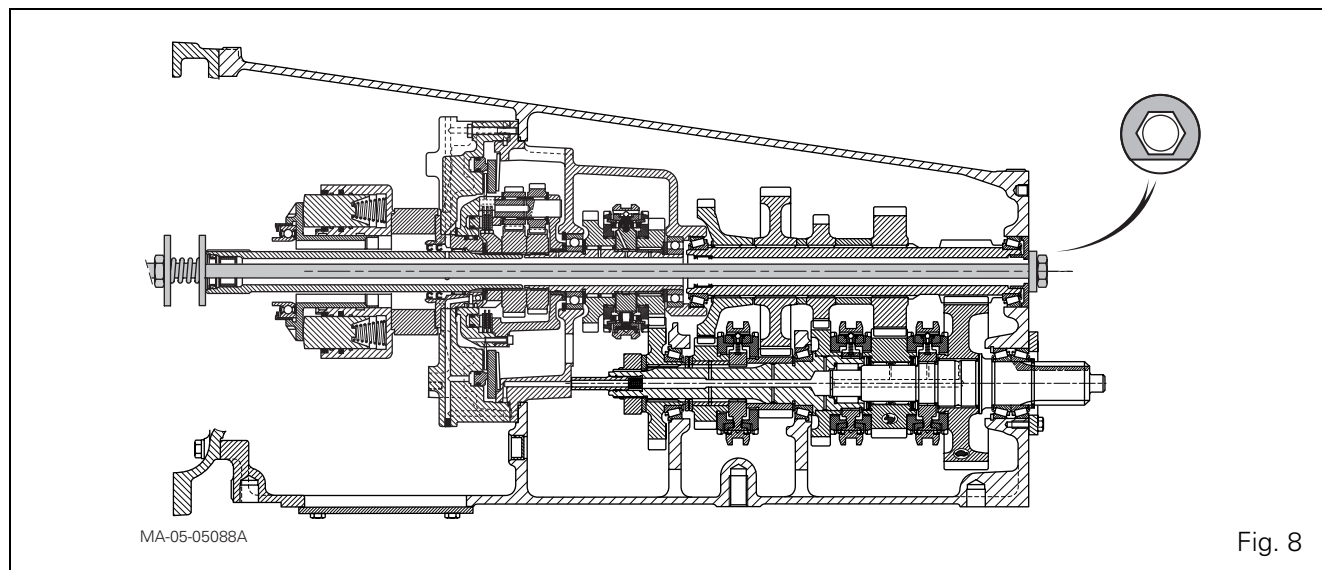

Fig. 8
36. Fit the makeshift tool (Fig. 8 and § I) in the shaft.